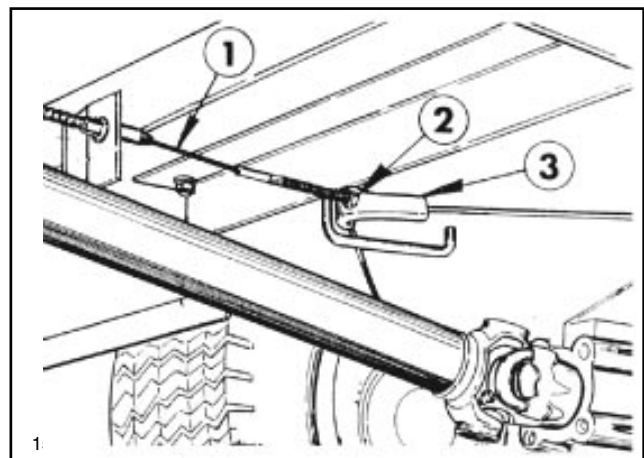

FIG. 28
3. Push the threaded rod on the end of the Brake Cable through the Brake Equalizer. See FIG. 28.
4. Tighten the nuts on the threaded rod until there is approximately 1/2 inch between the Jam Nut and the Equalizer as shown in FIG. 28.